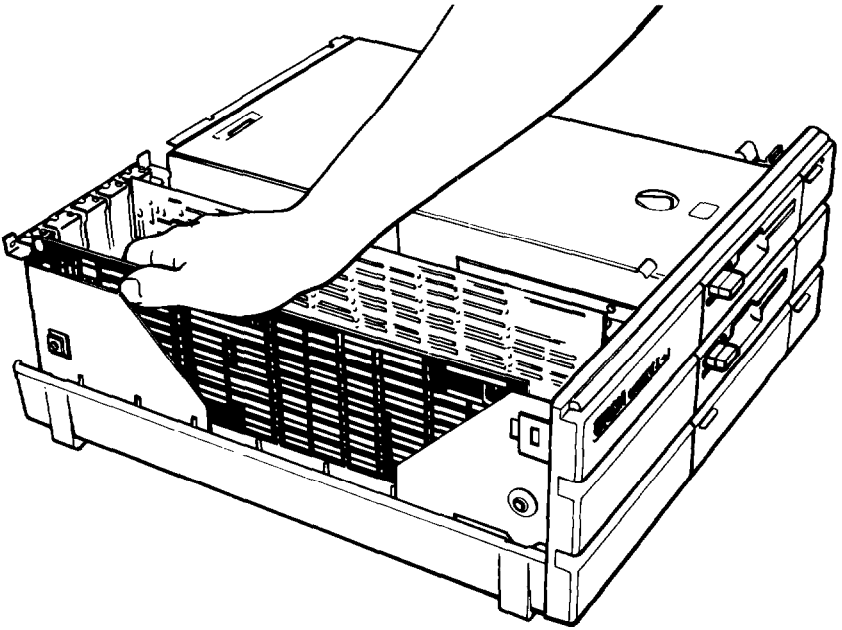

Figure 3-4. Inserting option card
4. Insert the card straight down into the slot as shown in Figure 3-4. Place the tab at the bottom of the retaining bracket into the corresponding notch at the back of the computer.